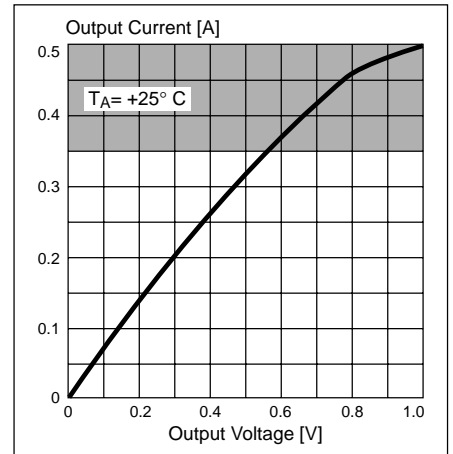

Figure 19. Typical phase output saturation voltage vs. output current
- $L_A$  and  $L_B$  used for continuous output at high currents. Use the RC network to set a proper duty cycle according to specifications, see figures 19 through 24.